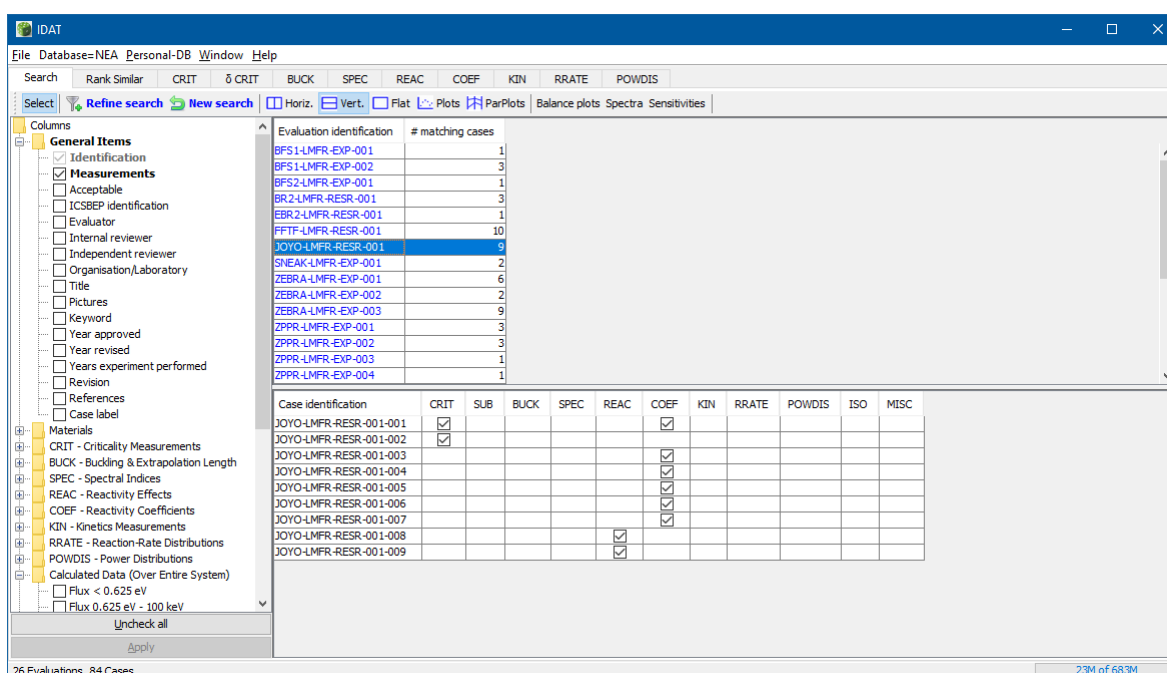

Figure 3: Displaying the parameters in the database
Once the query is executed a results window is returned, as shown in Figure 3.
In Figure 3, the "Measurements" box is checked on the left side of the screen in a Vert. view, producing two lists, the top which contains information at the evaluation level and a bottom list which contains information at the case level, in this instance the measurements done at the case level. By checking the various boxes, a user can display ~all of the data which is stored in the data base. An explanation of the terms is included in Appendix A: Glossary.
**Note:** **blue text** in results table are links to associated files (evaluation for instance in Figure 3), double clicking them to open these files (evaluation PDF in the case of blue evaluation id's, but also pictures, calculation inputs files, balance files, mesh tallies). If needed the path to the Handbook folder containing all evaluations PDFs (either on the DVD or a copy on hard drive) can be changed in File→Settings.